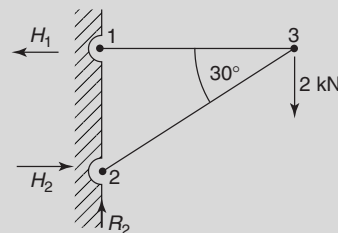

Figure A1.1
6. A force of  $25 \text{ N}$  acts horizontally to the right and a force of  $15 \text{ N}$  is inclined at an angle of  $30^\circ$  to the  $25 \text{ N}$  force. Determine the magnitude and direction of the resultant of the two forces using (a) the triangle of forces method, (b) the parallelogram of forces method, and (c) by calculation (12)
8. Determine by resolution of forces the resultant of the following three coplanar forces acting at a point:  $120 \text{ N}$  acting at  $40^\circ$  to the horizontal;  $250 \text{ N}$  acting at  $145^\circ$  to the horizontal;  $300 \text{ N}$  acting at  $260^\circ$  to the horizontal. (8)
9. Determine the unknown internal forces in the pin-jointed truss of Figure A1.1. (7)